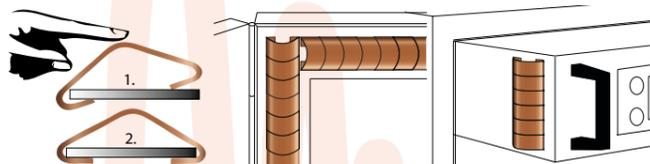

Figure 98 : Snap-on fingerstrips for slot mounting and large compression
- 98** When there is a wide range of compression required, our 2200 series Snap-on Fingerstrips or our 2300 series Stick-on fingerstrips may be suitable. These fingerstrips with self-adhesive can be integrated in the construction. Snap-on Fingerstrips can be firmly mounted in slots in your construction so that also a compression to nearly 0.25 can be realized. (Fig. 98)